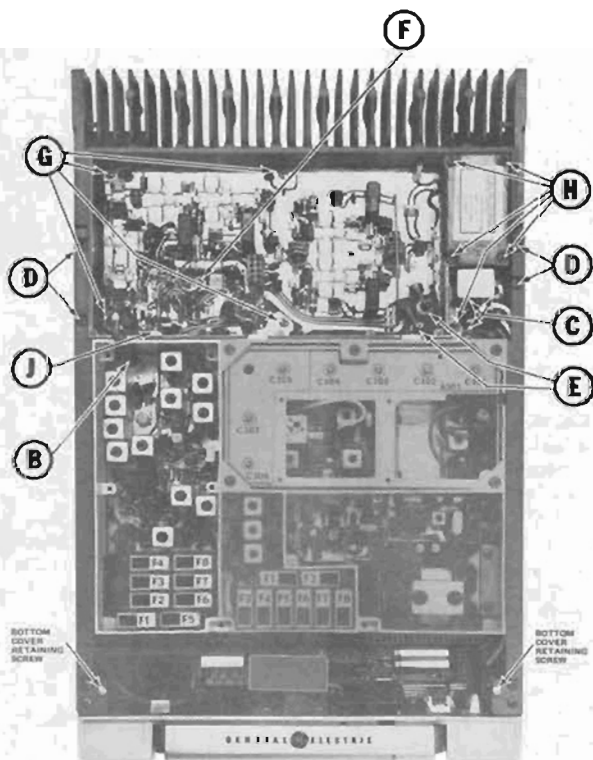

Figure 5 - Disassembly Procedure Top View
2. Remove the top cover, then loosen the two bottom cover retaining screws and remove the bottom cover (see Figure 5).
3. To gain access to the bottom of the exciter board, remove the six screws (A) holding the exciter board and its bottom cover to the module mounting frame, and remove the bottom cover.